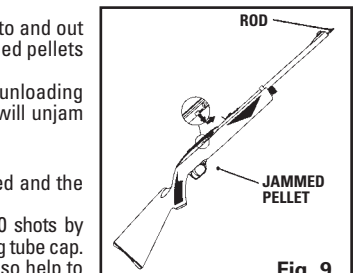

Fig. 9
- Press downward and forward on the barrel latch tabs (Fig 9)
- Insert a rod in to the barrel and carefully push the jammed pellet into and out of the pellet magazine area of the rifle. Do not try to reuse any jammed pellets (Fig 9)